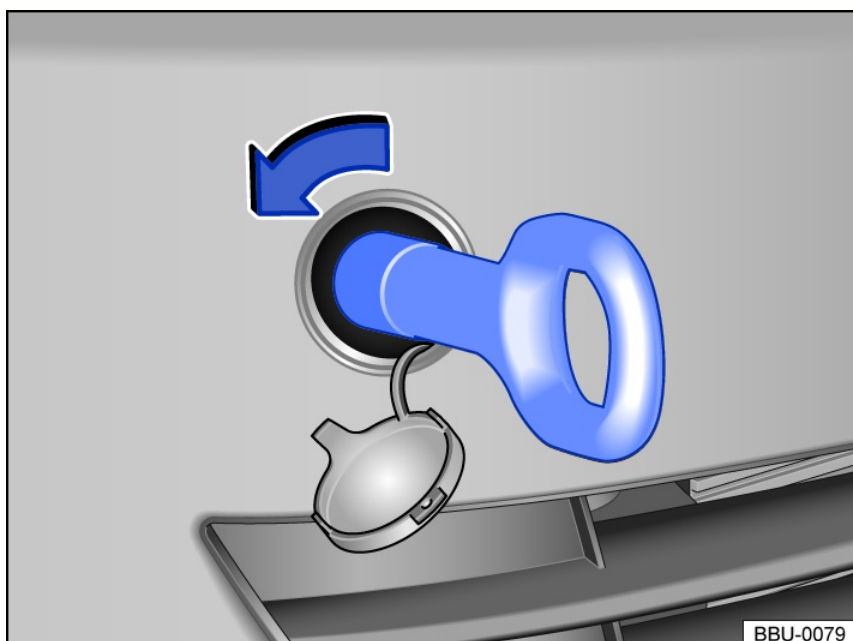

Fig. 145 In the right front bumper: Screw in towing eye.
- Rotate the towing eye **counterclockwise** and tighten as far as it will go to install it in the opening *fig. 145*, ⇒ !. Use a suitable object to tighten the towing eye completely and securely in the mount.